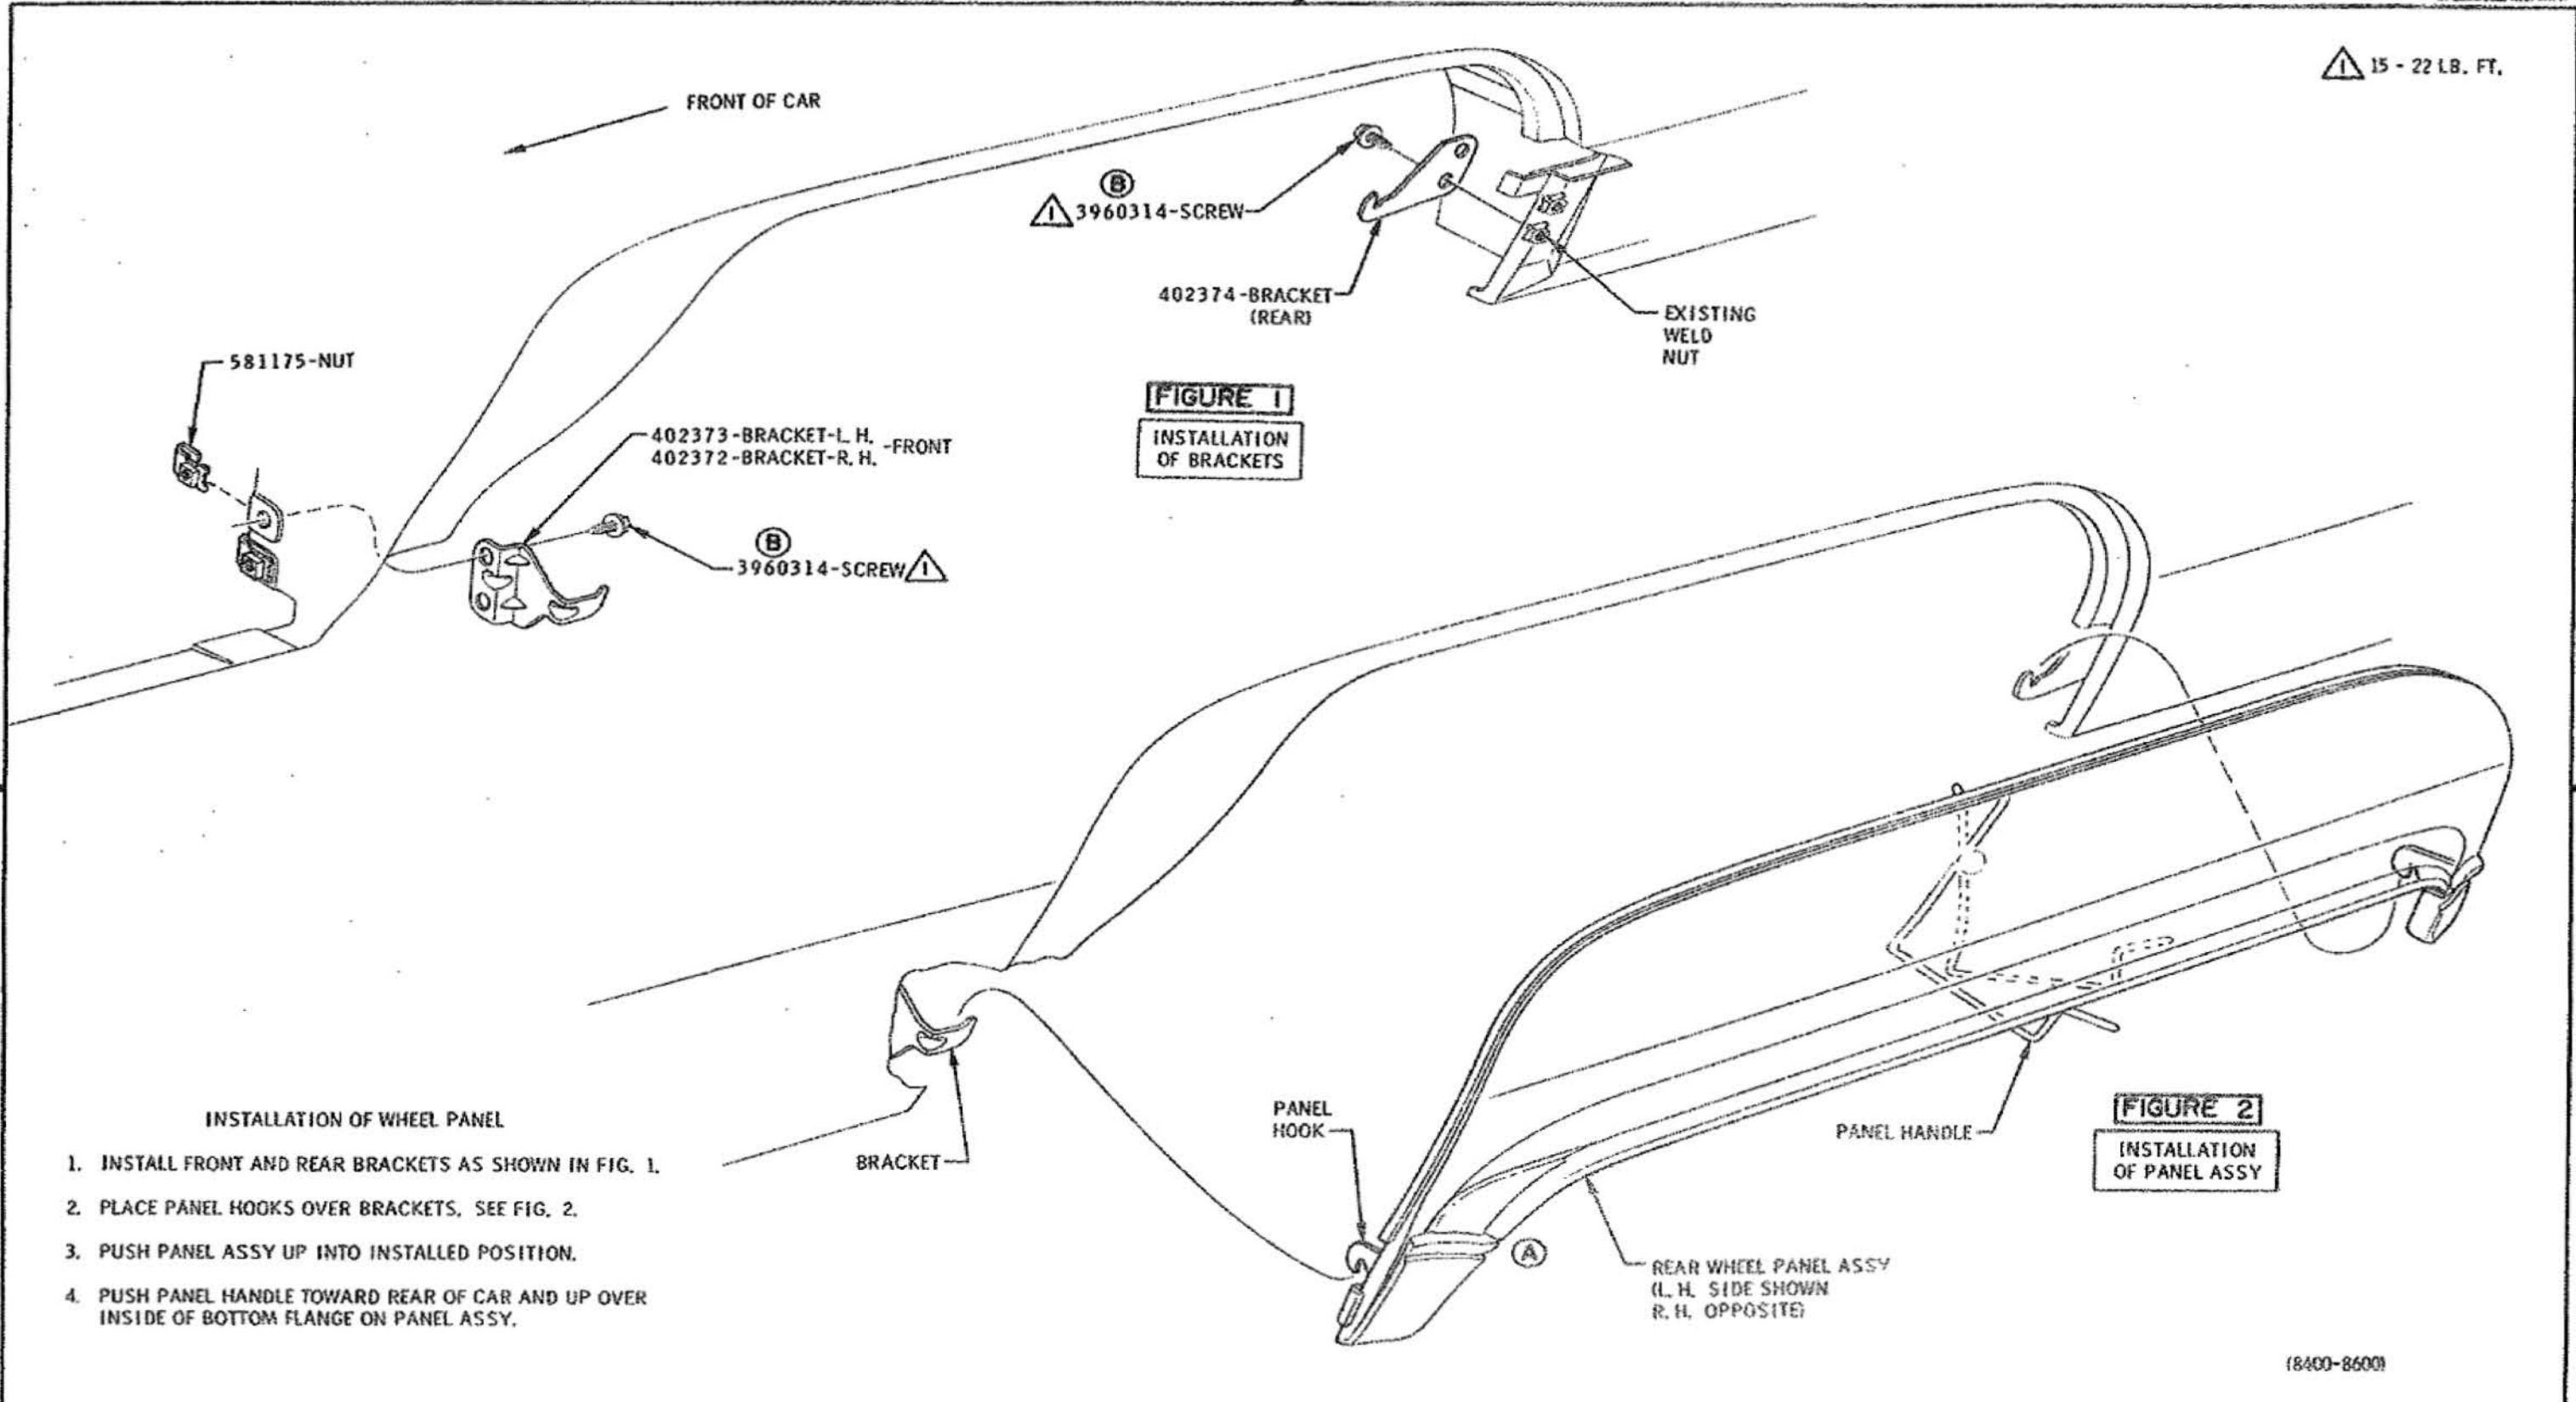

FIGURE 1
1. INSTALL FRONT AND REAR BRACKETS AS SHOWN IN FIG. 1.